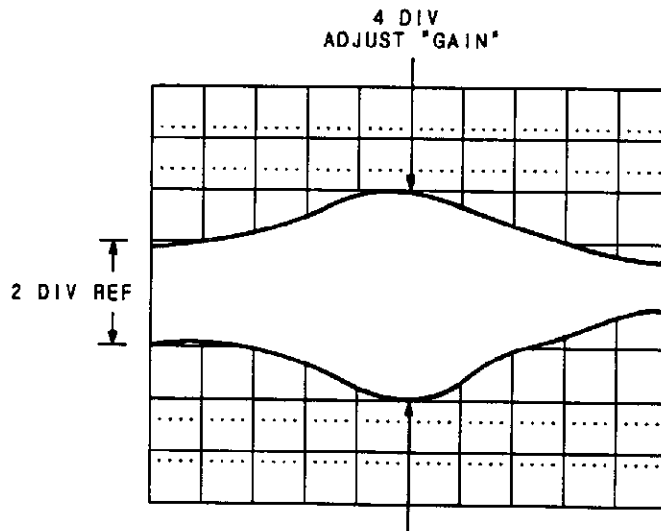

Figure 5-42a. ALC Gain Adjusted Correctly (Worst Case)
7. While monitoring CHANNEL A, manually sweep the entire plug-in frequency range and adjust the ALC "GAIN" (A4R15) for 4 divisions of peaking at the plug-in frequency where the highest gain peaking occurs. (See Figure 5-42a)